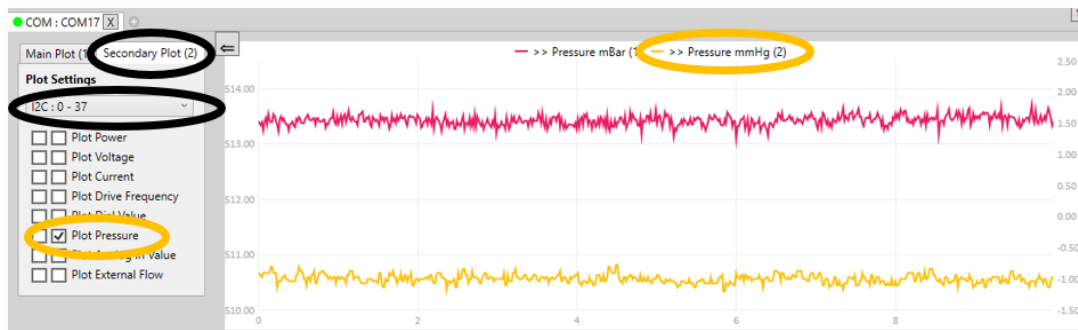

Figure 41 Plotting data from multiple pumps. Data from the main pump is plotted in red and data from the secondary pump is plotted in orange.
- At the top of the graph there is a legend of all data sets plotted. The legend contains a (number) next to each data set to indicate whether it is data from the main (1) or secondary (2) pump as shown in Figure 41.